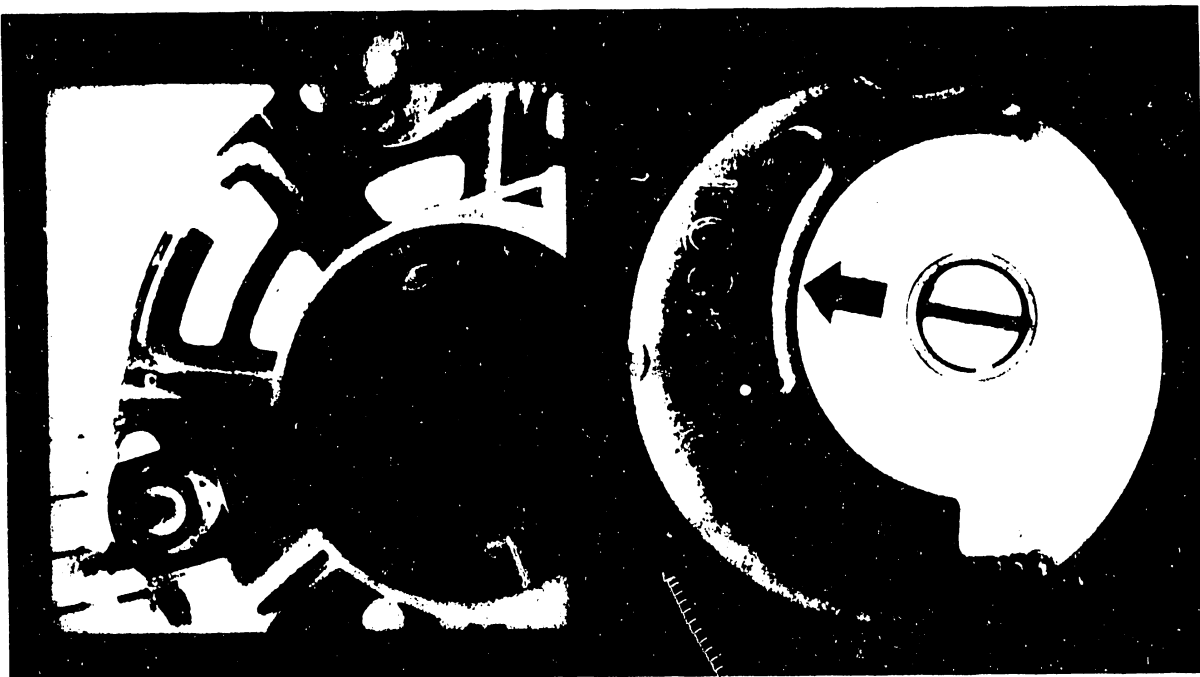

Figure 5-24. Quantum Spindle Lock (left) and Actuator lock (right)
1. On the spindle lock (Figure 5-24) loosen the 11/32 inch hex nut.
4. Using a slotted screwdriver, unlock the actuator by rotating the actuator lock counter-clockwise as far as it will go (approximately 1/2 turn). The embossed arrow should now point to 'RUN'(Figure 5-24). DO NOT FORCE.